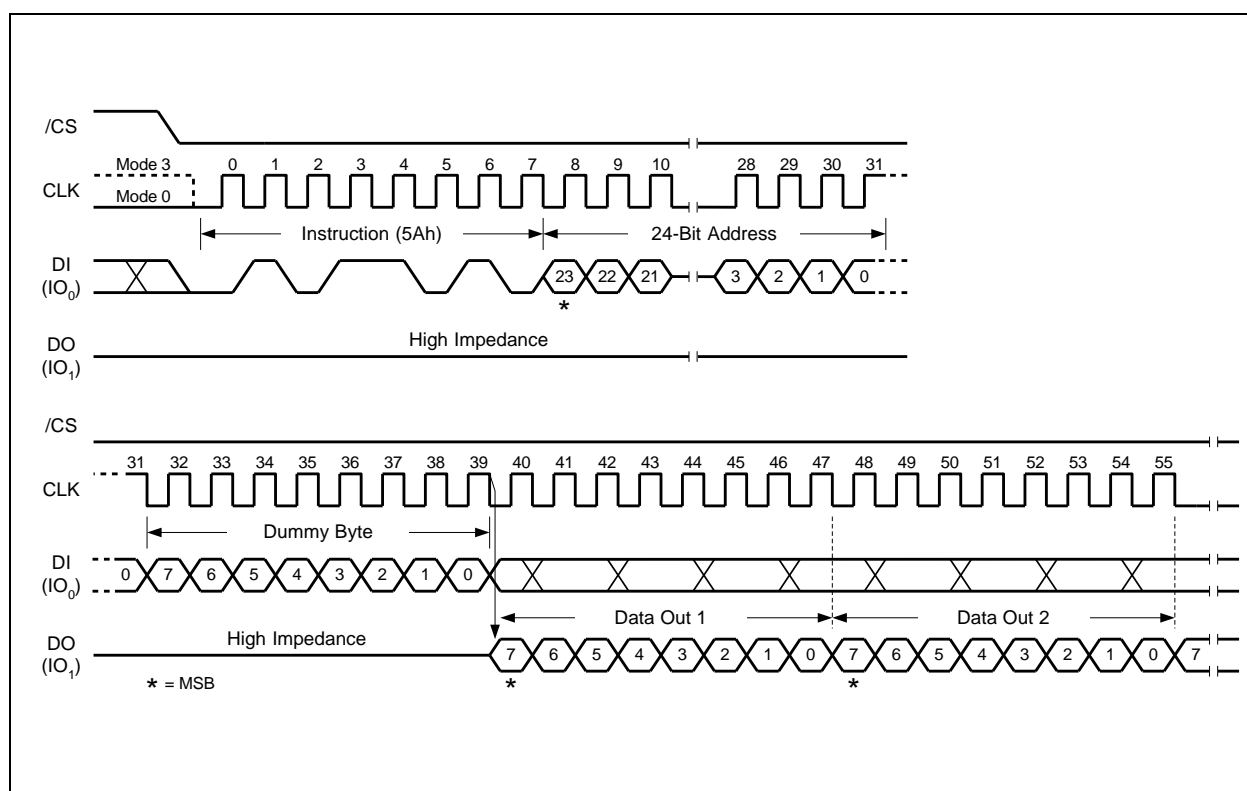

Figure 51. Read SFDP Register Instruction Sequence Diagram
The Read SFDP instruction is initiated by driving the /CS pin low and shifting the instruction code “5Ah” followed by a 24-bit address (A23-A0)(1) into the DI pin. Eight “dummy” clocks are also required before the SFDP register contents are shifted out on the falling edge of the 40th CLK with most significant bit (MSB) first as shown in Figure 51. For SFDP register values and descriptions, please refer to the Winbond Application Note for SFDP Definition Table.